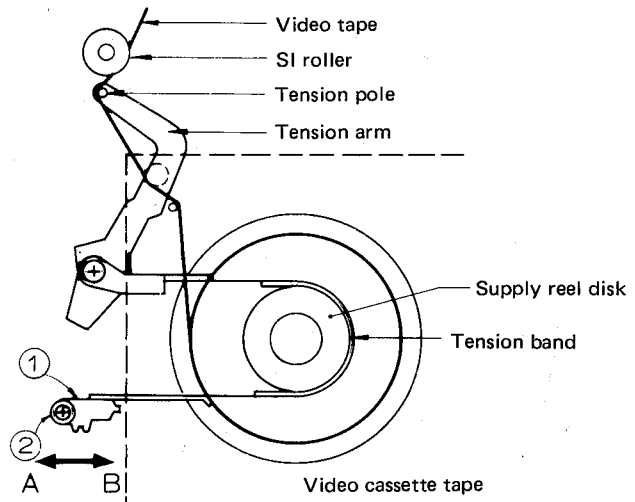

Figure 7-12.
- 1) If the distance between the tension pole and SI roller, measured at their centers, is smaller than 0.5 mm, move tension band adjusting angle (1) in the direction of B (see Figure 7-12) then tighten screw (2).
- 2) If the distance between the tension pole and SI roller, measured at their centers, is greater than 1.0 mm, move tension band adjusting angle (1) in the direction of A (see Figure 7-12) then tighten screw (2).